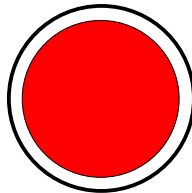

Figure 47. Contactor Closed Lamp
17. Verify that the contactor **CLOSED** lamp (Figure 47) is lit (RED).
3. Once in **AUTO** mode, the controller monitors the auto start contacts awaiting a closure. A closed contact signal will start the engine, automatically closing the contactor. Reference Figure 47.